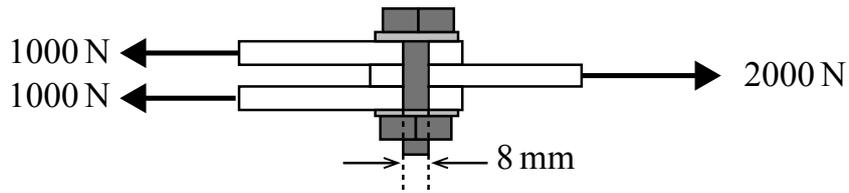

Fig. 5
- 5 (a) Fig. 5 shows a steel bolt of diameter 8 mm which is in double shear when subjected to a tensile force of 2000 N. Calculate the shear stress in the bolt. You must include appropriate units in your answer.